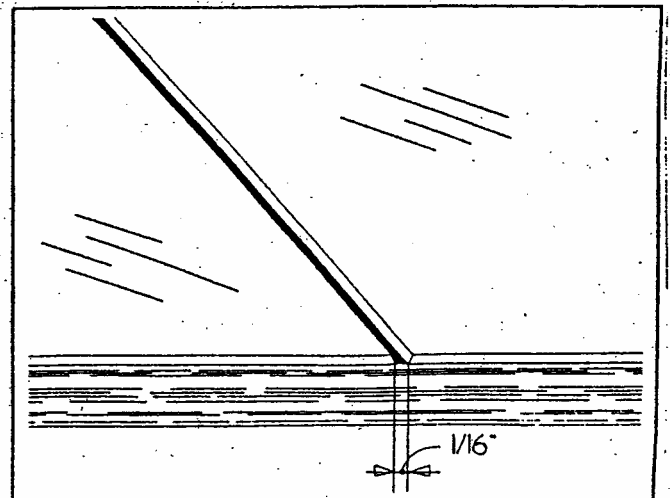

Figure 20
6. Adhere sheet to substrate leaving a 1/16" gap between the two polished edges of the two sheets. See Figure 20.